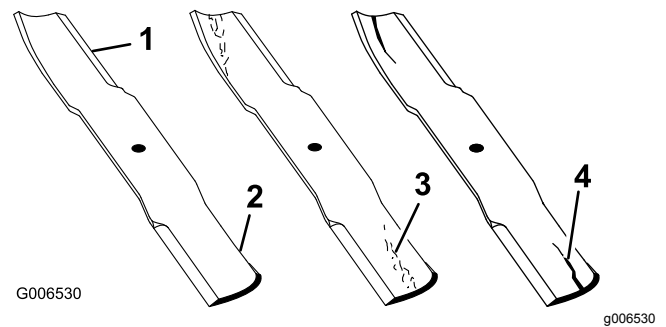

Figure 53
1. Inspect the cutting edges (Figure 53).
2. Inspect the blades, especially the curved area (Figure 53).
Note: If you notice any damage, wear, or a slot forming in this area (items 3 and 4 in Figure 53), immediately install a new blade.